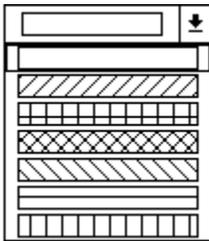

Figure 13.3 Pattern Selection Box
- ◆ **Pattern:** Select one of seven shading patterns to assign to the box background. Figure 13.3 shows the shading options available.
2. Open the Pattern list box (see Figure 13.3). Select a pattern from those displayed.